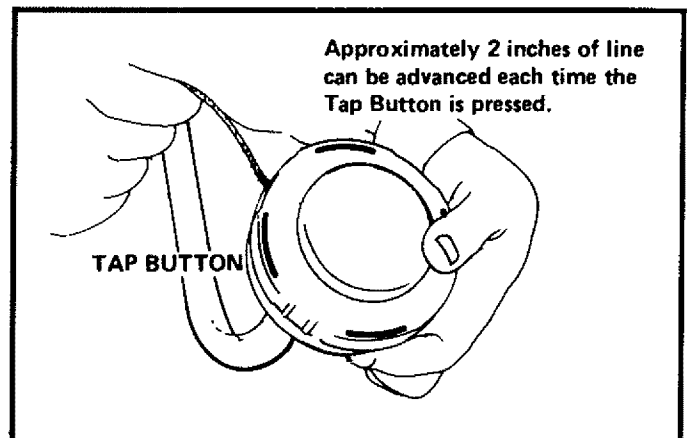

Figure 3
- Press the tap button and pull the cutting line from the head a minimum of 2 inches. Figure 3.